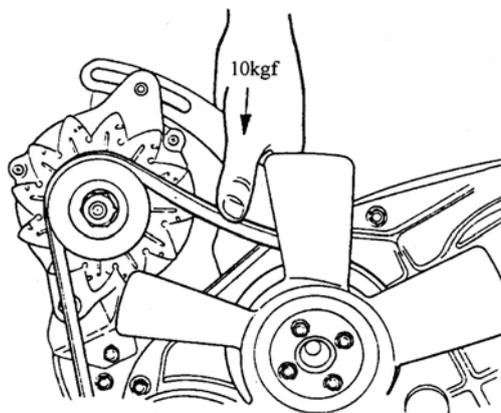

FIG.7-16
- 1) Check belt for crack, deformation, wear and cleanness, the belt is in proper tension when a thumb pressure(10kg) applied to the middle point between water pump pulley and crankshaft pulley deflects it 10~15mm. (FIG.7-16)